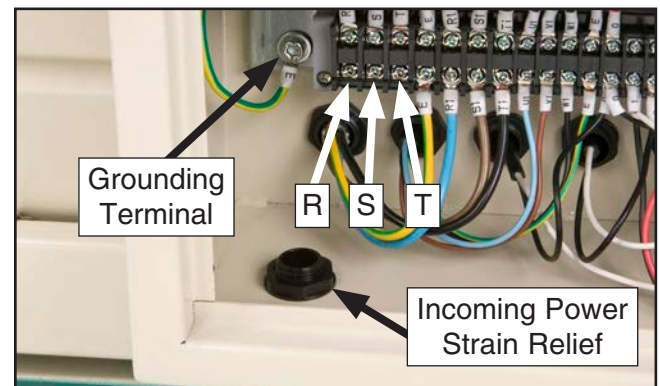

Figure 22. Location of hot wire terminals, ground terminal and strain relief inside electrical cabinet.
Note About 3-Phase Power: *Due to the startup load from this machine, we do not recommend using a static phase converter to create 3-phase power—as it can quickly decrease the life of electrical components on this machine. If you must use a phase converter, only use a rotary phase converter and connect the manufactured leg or "wild wire" to the S terminal (see location in **Figures 22–23**). The S terminal can handle power fluctuation because it is wired directly to the motor.*
2. Identify the R, S, and T terminals and the grounding terminal (see **Figure 22**).
3. Thread the power cord through the strain relief shown in **Figure 22**.